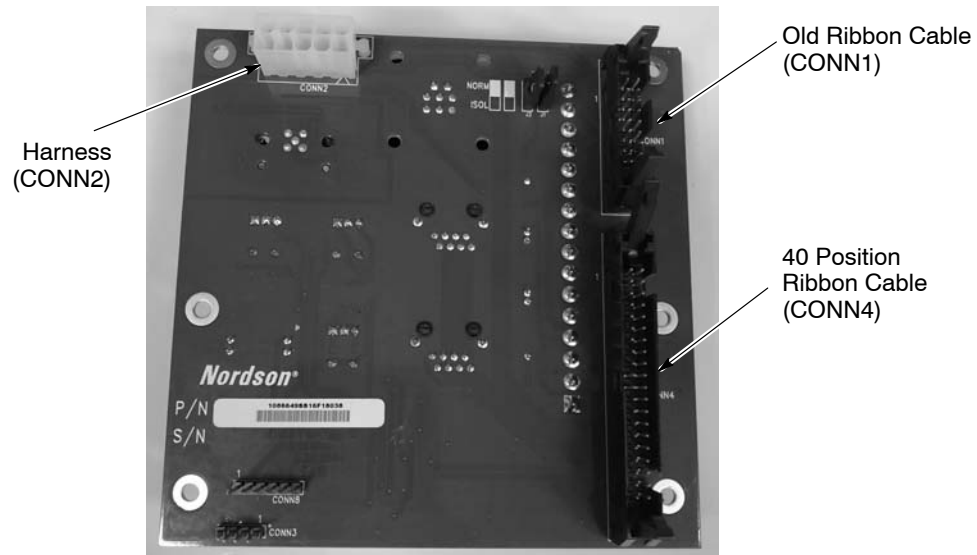

Figure 7 Removing Old I/O Board
1. See Figure 7. Remove the interface cables from the connections (CONN1, 2, and 4) on the I/O board.